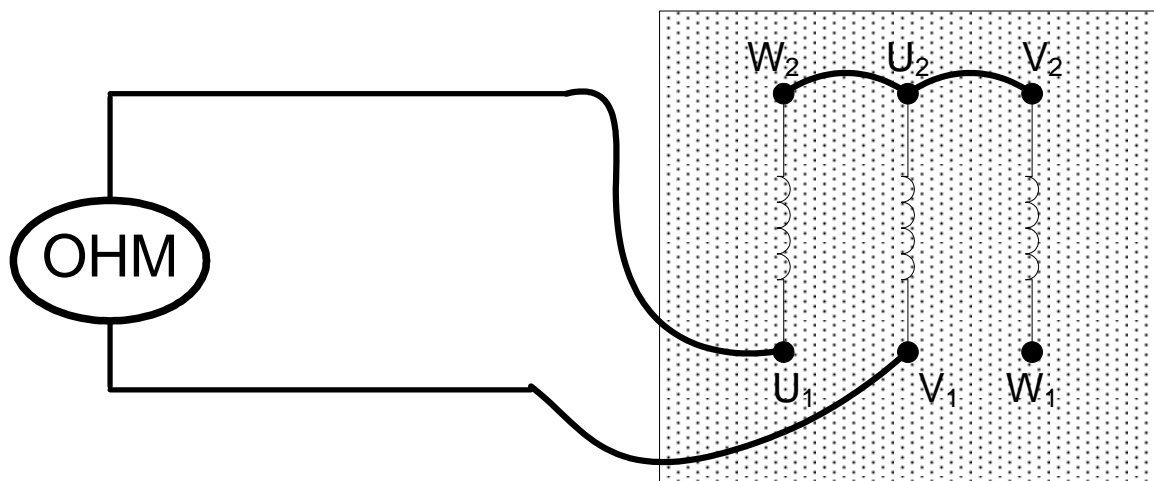

Fig. 5: Wiring diagram under DC Test
4. Connect the circuit as shown in the wiring diagram of Fig. 5 and record the value of one single phase DC resistance